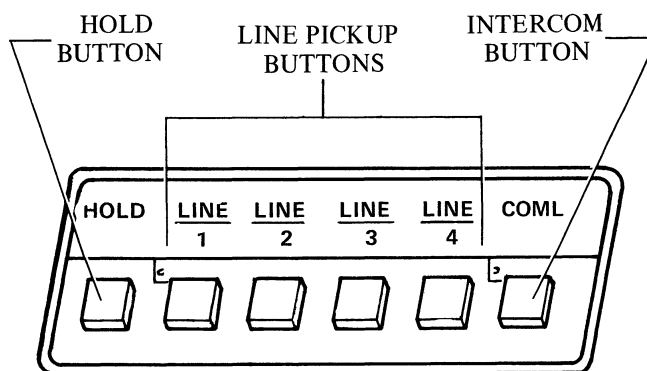

FIGURE 4 Button Panel of Key Telephone Set
8.1.1 Operation of the KTS is extremely simple. The pushbuttons on the station telephones (figure 4) serve to switch the talking circuit to any one line. Visual signalling by illuminating buttons insures rapid identification of calling, busy, or held lines, and prevents interruption of calls in progress.